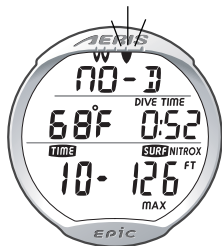

Fig. 73 - LOG DATA 1
**LOG DATA 1** information includes (Fig. 73):